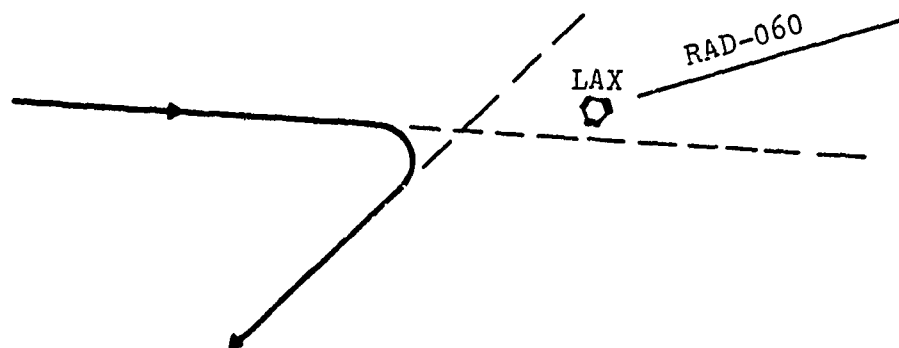

FIGURE 6. Aircraft trajectory where radial is not intersected nor does the aircraft move away from radial
2. The aircraft is not proceeding away from the radial. In that case, the aircraft is either moving parallel to the radial, or the aircraft is on the "opposite" side of the navaid (Figure 6). In that case the message is: